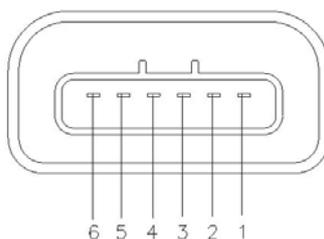

Fig. 4-51
- ① If the burglar alarm system is still not activated, and the unlocking key on the remote controller is pressed, then only unlocking will be implemented.
- ② If the burglar alarm system is activated, upon unlocking by remote control, then the steering signal lamp flashes for twice and annunciator sounds for twice, burglar alarm indicator goes out.
- ③ If the burglar alarm system is activated, and no door is opened after unlocking by remote control, then alert state will recover together with automatic locking, the steering light does not flash and annunciator does not sound.
2. Check of left front door central lock actuator as shown in Fig. 4-51